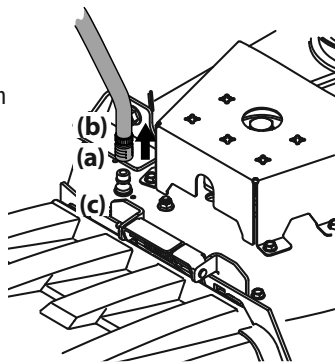

Figure 27
3. Pull back the lock collar (a) of the nozzle adapter (b) and push the nozzle adapter onto the deck wash nozzle (c). Release the lock collar to lock the nozzle adapter on the deck wash nozzle. See Figure 27.